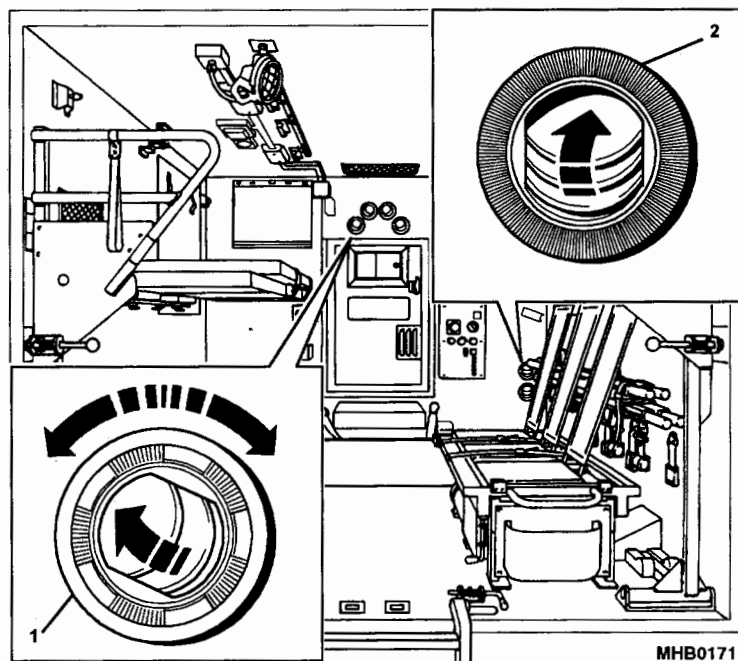

Fig 15 Fresh air and recirculation vents
30 There are positioned around the ambulance fresh air vents (Fig 15 (1)). These are positioned above the walk through door and in the roof of the compartment. They can be rotated and opened to any ensure a continuous flow of air in any given direction.